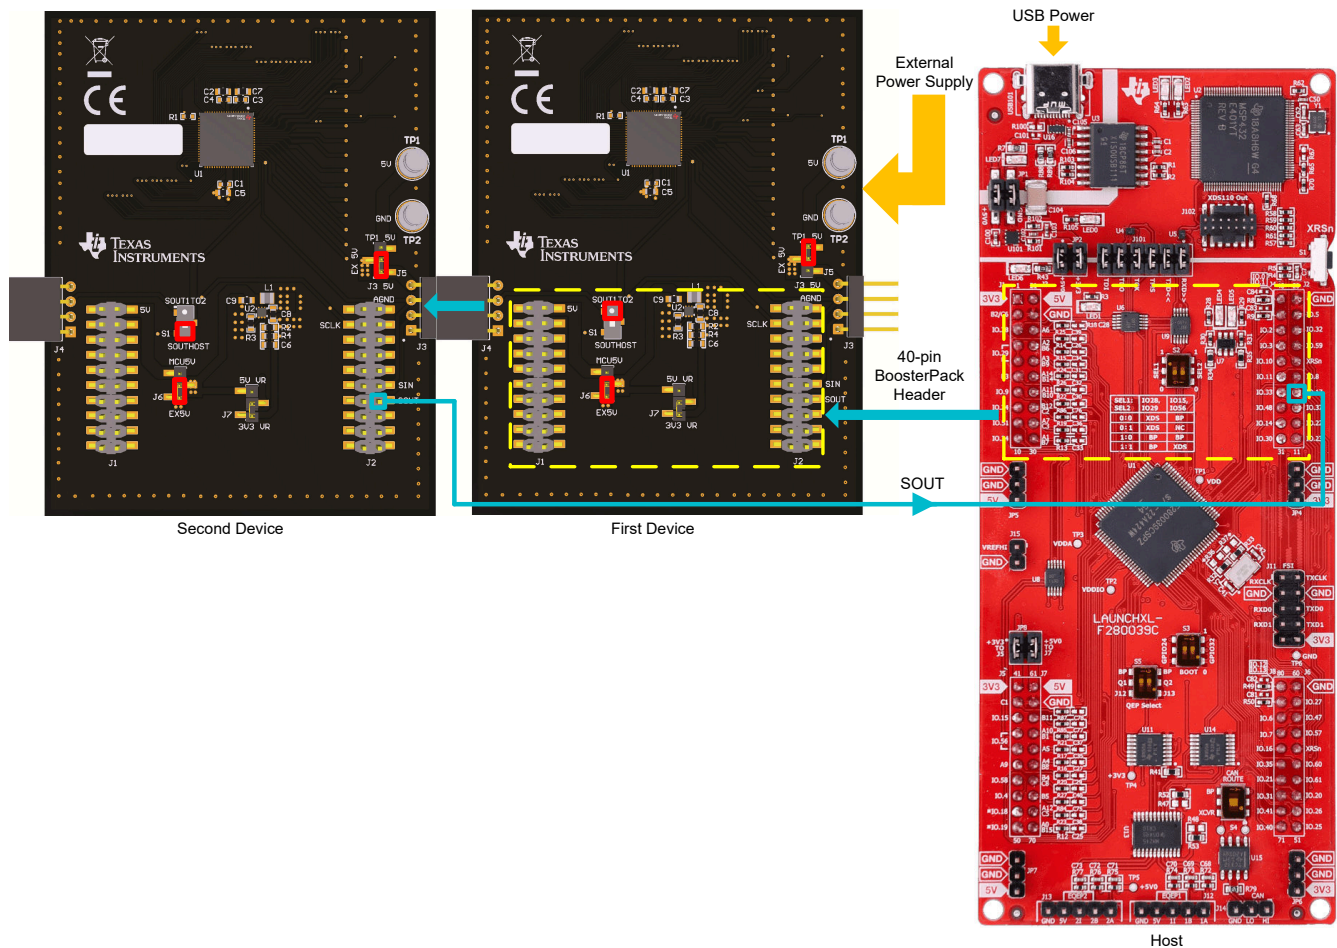

Figure 2-4. Dual Cascaded LP5891EVM Connected with the TMS320F280039C LaunchPad
2. For the first LP5891EVM, put the J5 jumper on *TP1 5V* and *EX 5V*. Then put the J6 jumper on *EX5V* and the middle. Set the switch *S1* towards *SOUT1TO2*. These setups are marked with red boxes on the *First Device* in Figure 2-4.
3. For the second LP5891EVM, put the J5 jumper on *J3 5V* and *EX 5V*. Then put the J6 jumper on *EX5V* and the middle. Set the switch *S1* towards *SOUTHST*. These setups are marked with red boxes on the *Second Device* in Figure 2-4.
4. Connect BoosterPack connectors (J1, J2) on the first LP5891EVM with the TMS320F280039C LaunchPad, the connection method is shown in Figure 2-4.
5. Connect the J4 connector of the first LP5891EVM to the J3 connector of the second LP5891EVM. The direction is shown in Figure 2-4.
6. (Optional) Connect the SOUT pin of connector J2 on the second LP5891EVM to the IO.17 pin of connector J2 on the TMS320F280039C LaunchPad through an additional 1-pin cable that is marked as the bottom blue line in Figure 2-4. This step enables LP5891EVM to report LOD (LED Open Detection), and LSD (LED Short Detection) out to the host TMS320F280039C LaunchPad.